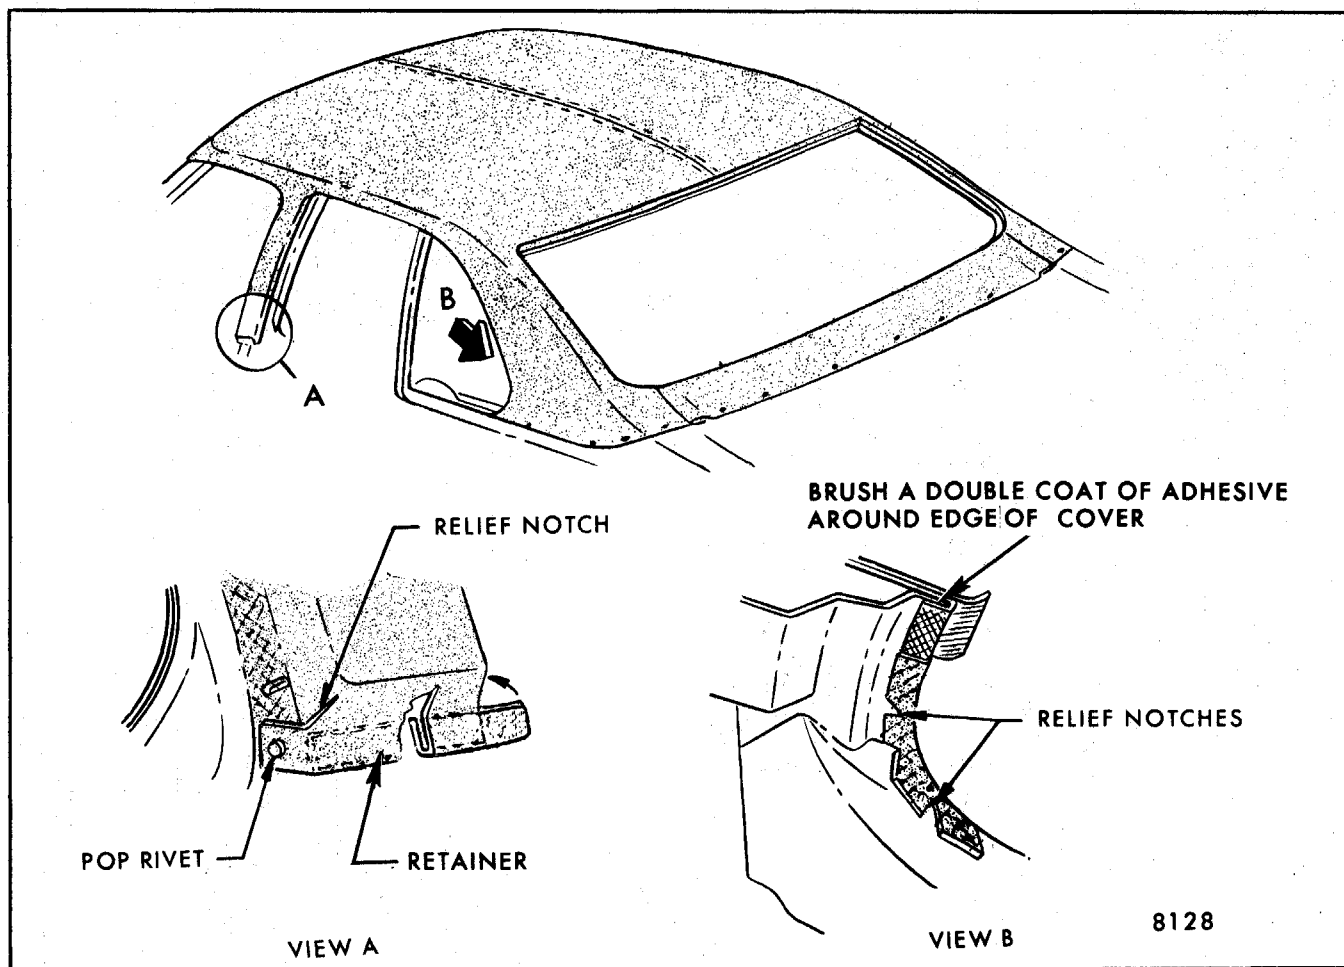

Fig. 8-23-Fabric Roof Cover Installation at Center Pillar and Quarter Window - "A-29" Styles
3. On "A-29" styles, drill out four rivets and remove retainers (Fig. 8-23).